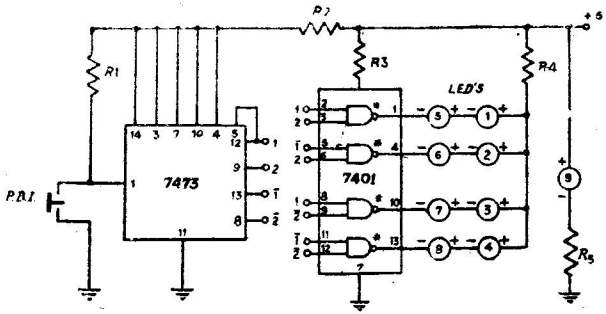

Fig. 33
*Circuit description :* (See. Fig. 33)